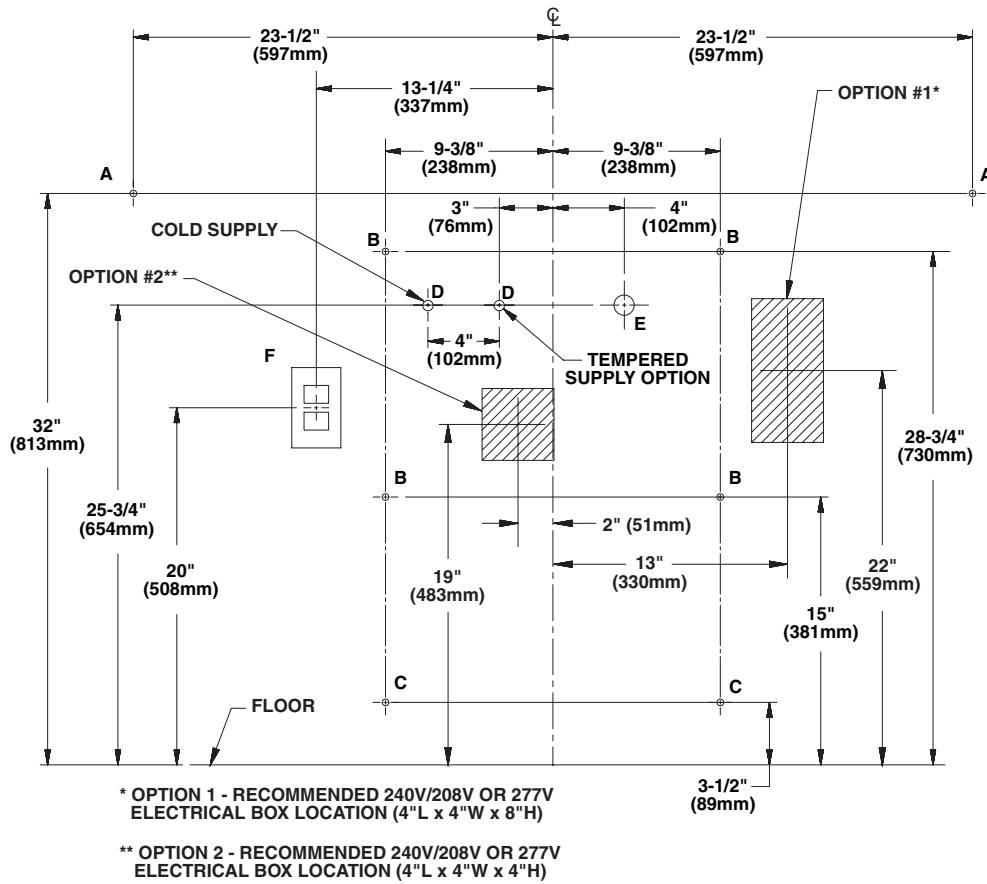

Figure 1
IMPORTANT: Dimensions shown in Figure 1 on page 6 are for a Standard and Wall-Hung Pedestal Express® only. Make sure to follow appropriate dimensions based on configuration and required rim height. See Charts 1 and 2 on page 6 before beginning rough-ins.
3. OPTIONAL HOT WATER HEATER: Rough in appropriate electrical supply per local code (recommended 240/208-volt or 277-volt electrical box location shown in Figure 1).
4. Install the 110 volt GFCI electrical outlet per local code at the location shown in Figure 1.
5. Install four to six 3/8" wall anchors with a minimum pull-out rating of 1,000 lbs. (supplied by installer) at the locations shown in Figure 1.
6. On the back of the bowl, measure the distance between the 3/4" bowl mounting holes. Divide this measurement in half. Measure and mark this dimension on the wall to the left of the centerline and to the right of the centerline. Install two 3/8" wall anchors with a minimum pull-out rating of 1,000 lbs. (supplied by installer) at the locations marked (ref. location "A" shown in Figure 1).